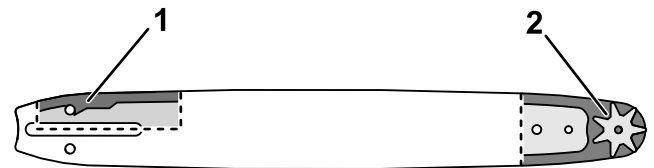

**Figure 29**
5. Remove the clip and drive sprocket from the chain saw (Figure 29).
9. Check the oil outlet (Figure 29) for debris and clean the area if necessary.